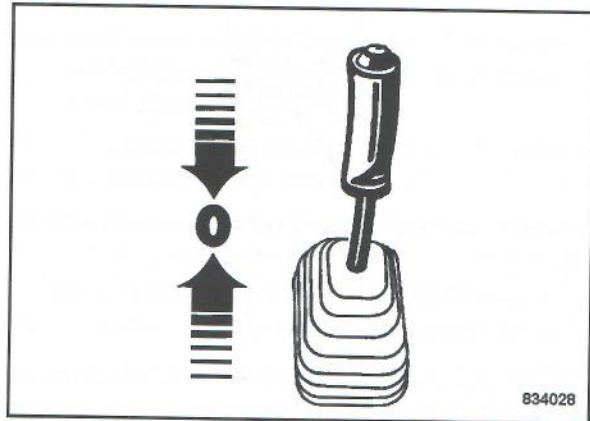

Fig. 26
- Check whether travel lever (Fig. 26) is in neutral position.